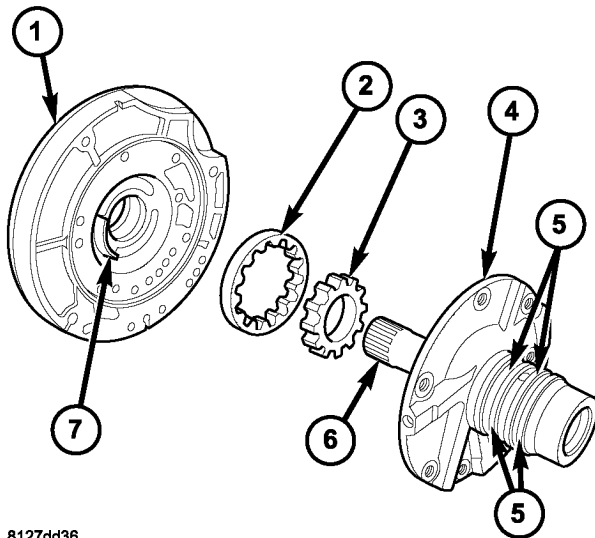

Fig. 286 Oil Pump Assembly
(1) Assemble oil pump as shown in (Fig. 286).